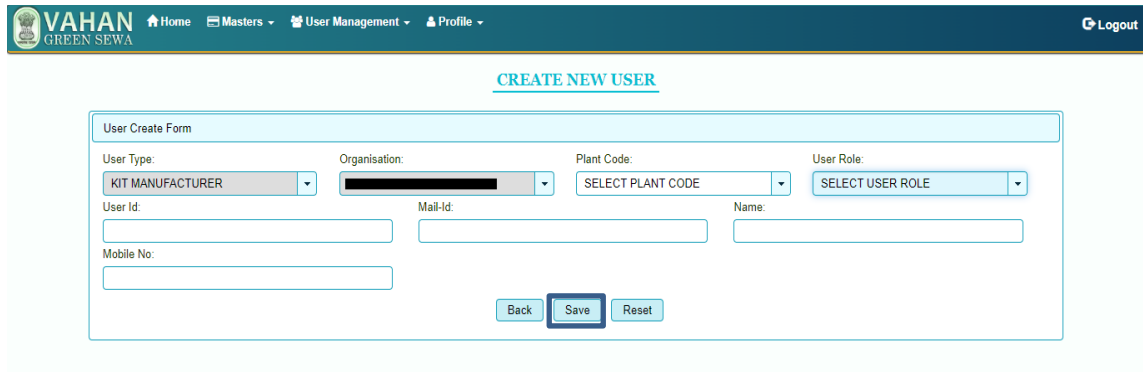

Figure 18: Page for creating user – inventory uploader
- Click on “User Management Tab” and select the default option, “Create New User” from the drop-down list. Figure 18 appears with the name of the organisation: